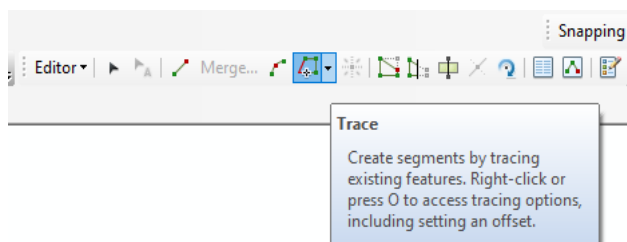

Figure 30. Trace Tool
- Draw your watershed boundary. It is recommended you use the Trace Tool (Figure 30).